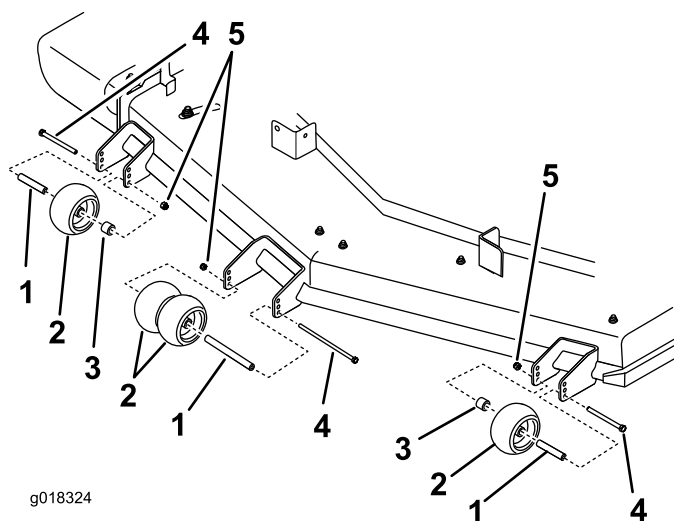

Figure 27
4. Ensure the spacers and bushings are installed (Figure 27).